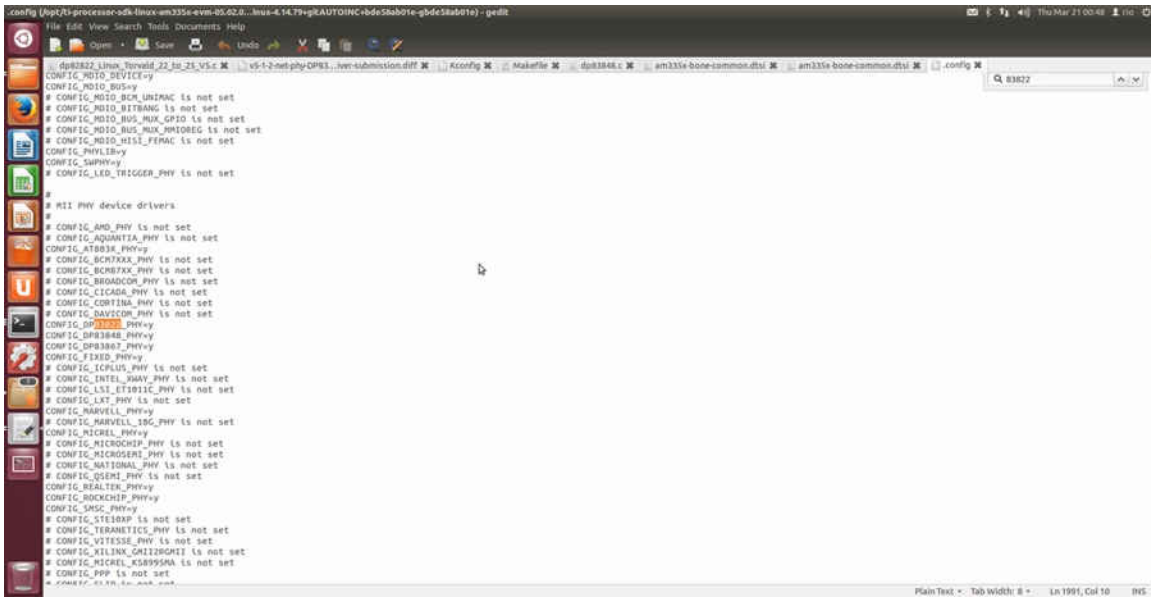

Figure 3-14. Menu Configuration Step C
3. Figure 3-14 is used to set the DP83822 Phy.